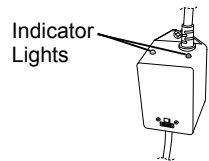

Figure 8
15. Reconnect the UV bulb socket (7) to the power cord socket (11) make sure you use the latex glove provided when handling the UV bulb.
16. Slide the new UV bulb (3) back inside the quartz tube.
17. Reinstall the black bulb boot (6) back over the quartz seal compression nut (5).
18. Reinstall the enclosure cover (9) with gasket (8) and secure with the screws.
20. Once power is activated you can check the ballast (12), Figure 8, to see if the CLEARRAY System is functioning. A solid green light indicates that the CLEARRAY System is being provided power and should always be on. A solid red light indicates that UV bulb is activated.